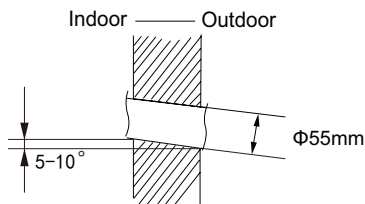

Fig.2
(2) Open a piping hole with the diameter of $\Phi 55\text{mm}$ on the selected outlet pipe position. In order to drain smoothly, slant the piping hole on the wall slightly downward to the outdoor side with the gradient of $5\text{-}10^\circ$.(As show in Fig.2)